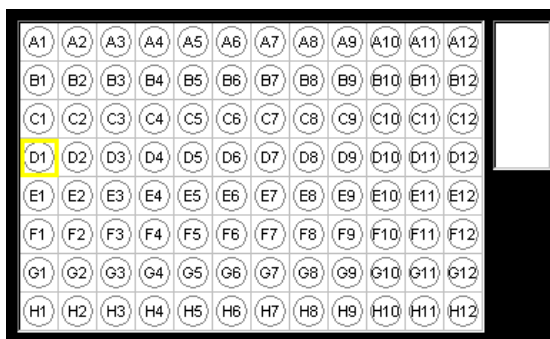

Figure 5-22 Microtiter Plate and XYP Reservoir Image
3. If you put the water somewhere other than the default location shown in the dialog box, click the drop-down arrow to the right of the **Eject/Retract** button. An image of the microtiter plate and Luminex XYP reservoir appears, shown in Figure 5-22. Click on the location in the image.